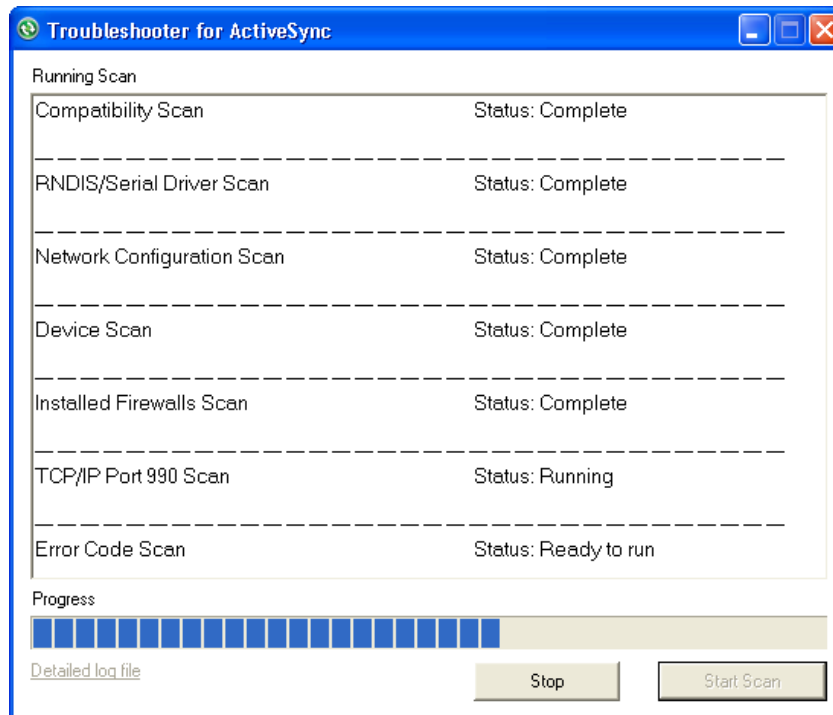

Figure 1.20: Host Trouble-shooter scan activity
15. If the user is using ActiveSync v4.5 (not available on v3.8), the Trouble-shooting tool for ActiveSync can be used to scan the host PC and UMR device to identify connectivity problems. To kick-off the utility, double click the ActiveSync wheel in the host taskbar and under the 'Help' drop down menu, click 'Trouble-Shooter for ActiveSync'. Following the on screen instructions, where the host will attempt to repair problems automatically. The screen shot below in Figure 1.20 demonstrates the host trouble-shooter scan in progress.